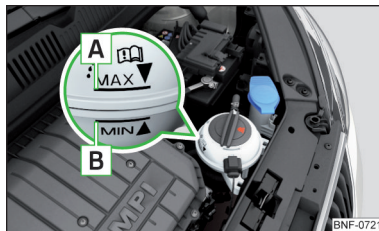

Fig. 110
» Fig. 110 on page 111.
- Do not fill the coolant above the mark **A** » Fig. 110 on page 111.
Coolant expansion reservoir » Fig. 110
» Check the level of coolant in the coolant expansion bottle » Fig. 110.
If the engine is warm, the test result may be inaccurate. The level can also be above the mark **A** » Fig. 110.